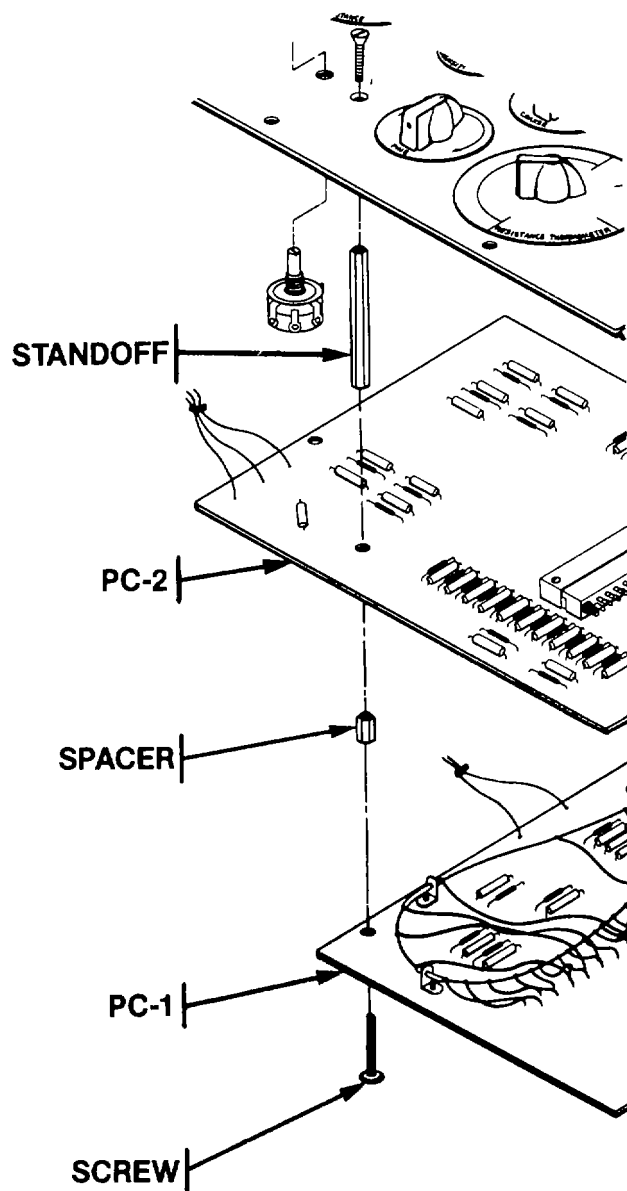

Figure 3-12. Printed Circuit Board Assembly
- (1) Use medium screwdriver to remove four machine screws securing printed circuit boards (PC) to instrument panel standoffs (See Figure 3-12).
- (2) Lay back the two boards so that both PC-1 and PC-2 are exposed for unsoldering.
- (3) Unsolder the wires at the particular circuit that is to be replaced.
- (4) Mark each wire with a tape that corresponds to notation on the PC board.
- (2) Calibrate tester in accordance with para. 3-10. When replacing either PC board.
- (3) Secure PC boards to back of panel with four machine screws and three spacers (See Figure 3-12).
- (4) Replace instrument panel in case, aligning eight screw holes.
- (5) Use medium screwdriver to secure panel with eight screws.